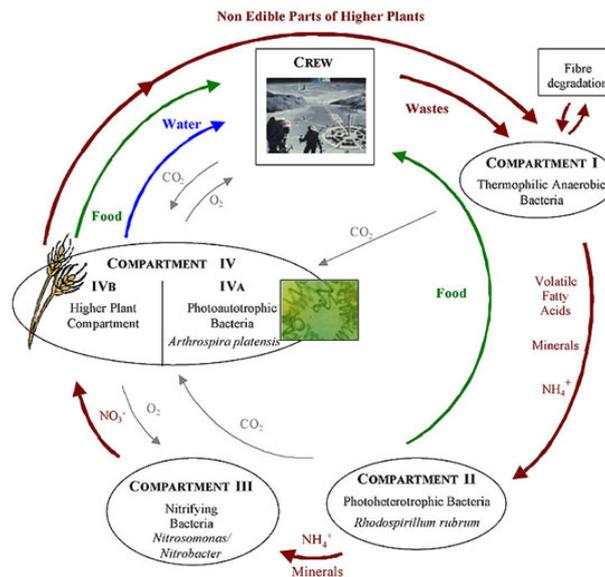

Figure 1 MELISSA LOOP CONCEPT
MELISSA Compartment I (CI) is first compartment of MELISSA loop. This compartment transform wastes to CO₂ and volatile fatty acids. See Error! No se encuentra el origen de la referencia. Figure 1 and MELISSA documentation to further information.